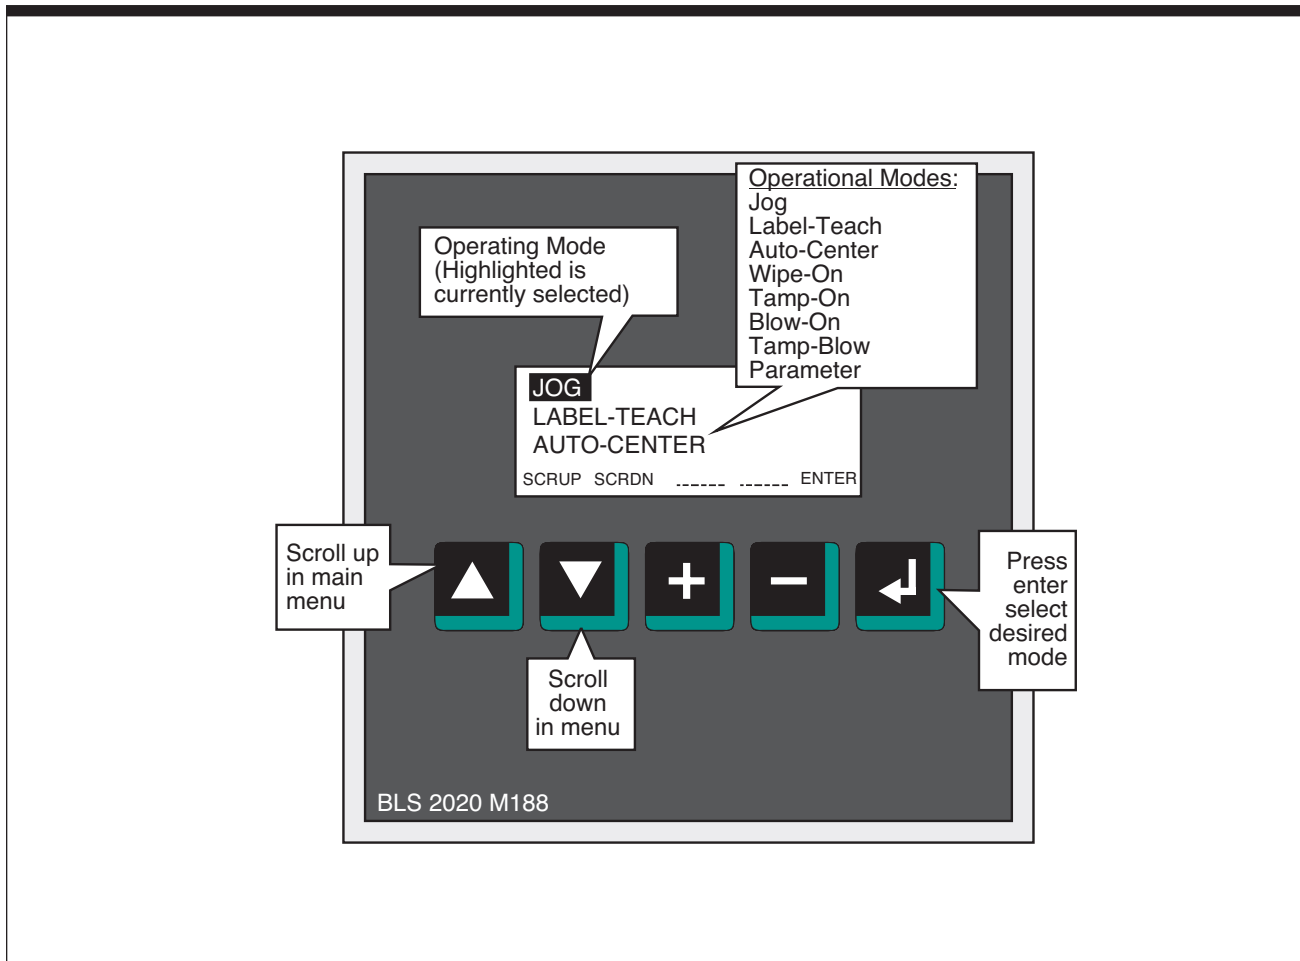

Figure 5-2. Main Screen
Main Screen Once powering up the applicator, the main screen is accessible after thirty (30) seconds. Choose the operating function (JOG, LABEL-TEACH, etc.) in order to set up the parameters for the different operating modes (refer to Figure 5-2).